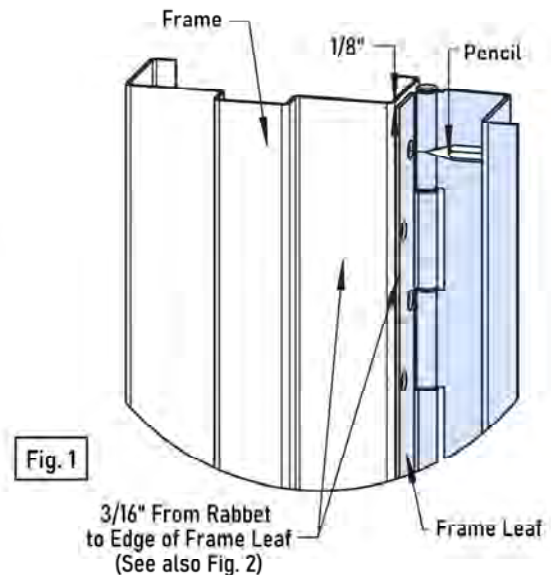

Fig. 1
A. Place hinge frame leaf on frame face. Position top of hinge $1/8"$ maximum below header. Place hinge firmly against face of frame. Position frame leaf edge $3/16"$ from rabbet as shown (Fig. 1 & 2).